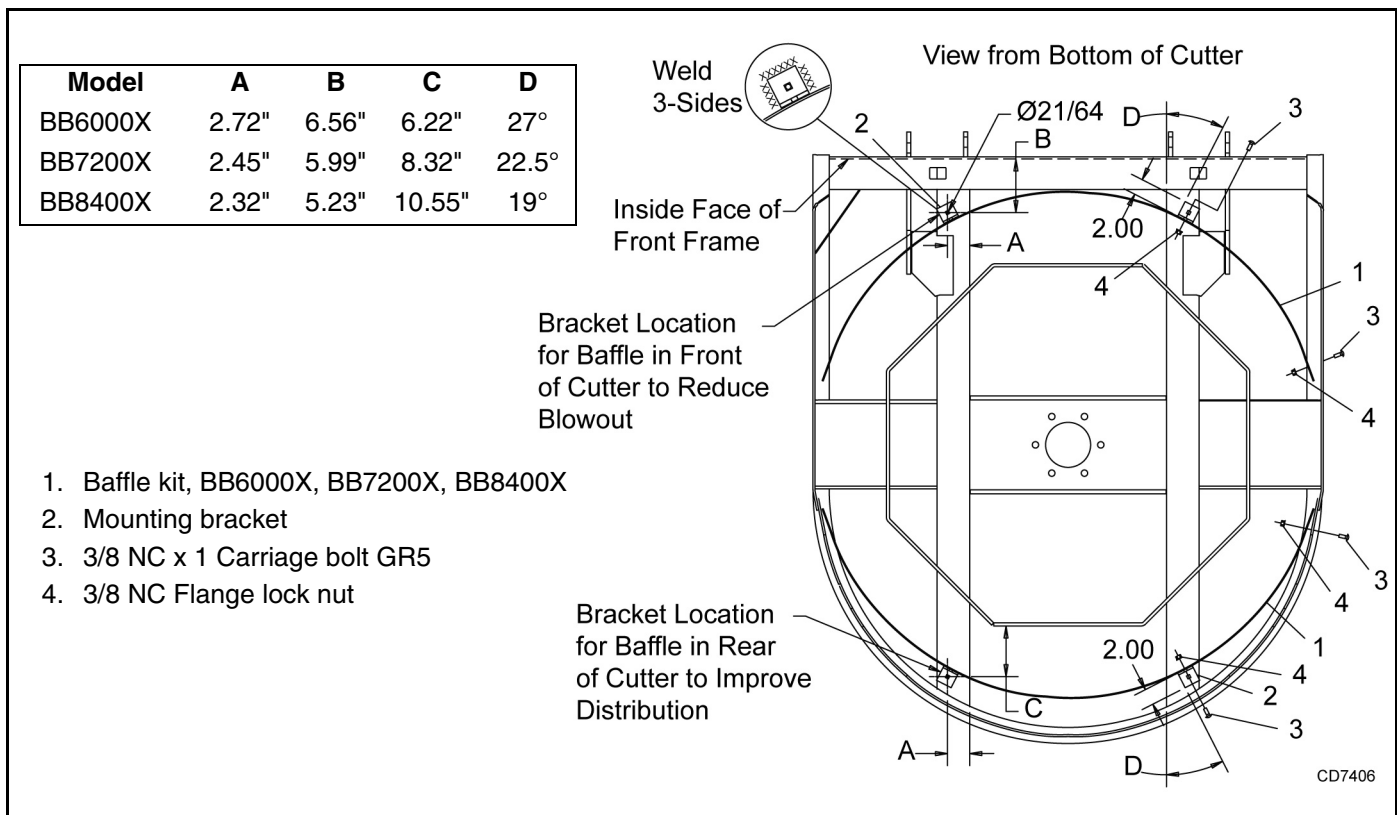

Figure 34. Baffle Installation
1. From the bottom of the cutter, drill two $2\frac{1}{64}$ " holes in the rectangular tubes using dimensions A, B and C from chart in Figure 34. Drill holes in either front or rear of cutter.
2. Attach L-shaped mounting brackets (2) to the bottom of the deck using self-tapping screws (5).
3. Place baffle (1) against mounting brackets (2) and secure using two carriage bolts (3) and flange lock nuts (4).
4. Baffles located in the front of cutter: Push end of baffle against cutter side frame drill hole through side frame using hole in baffle as a guide. Secure baffle to side frame using carriage bolts (3) and flange lock nuts (4).
5. Baffle located in the rear of cutter: Secure baffle to side frame using carriage bolts (3) and flange lock nuts (4).